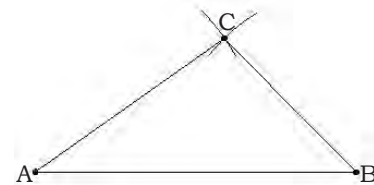

Fig. 1.17: Drawing a scalene triangle
1. Using a scale draw a 6cm line. Mark one of the ends as 'A' and the other end 'B' as shown in the Fig. 1.17.